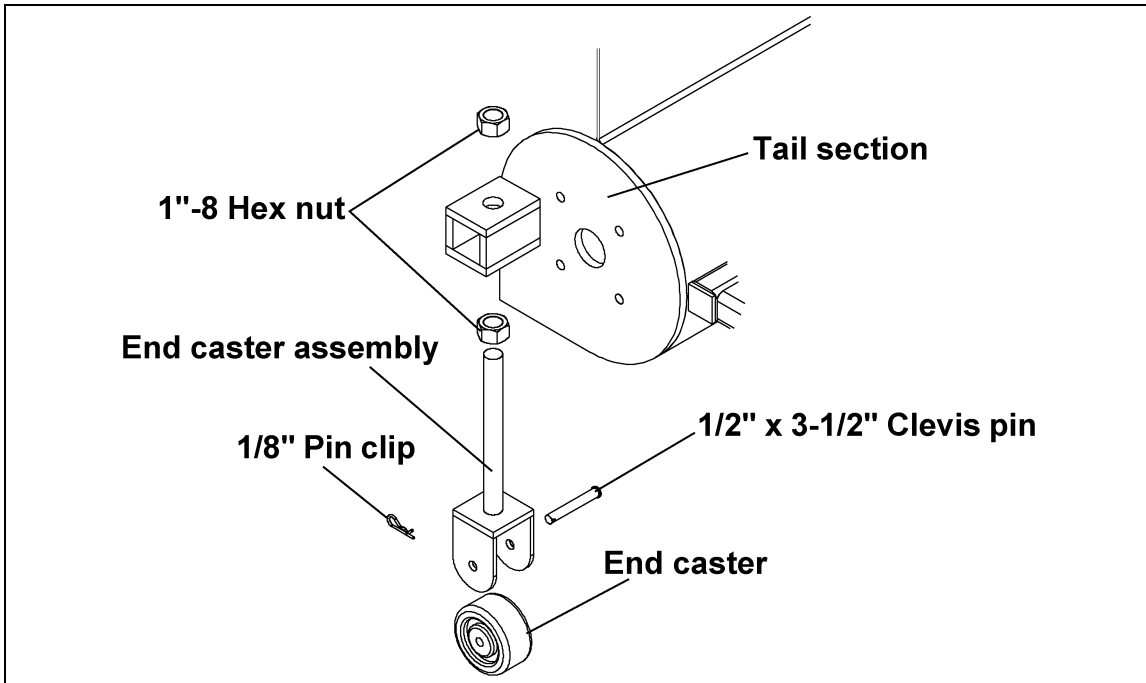

Figure 5A
- B. **(All 16" Models and 12" Models with extensions)** Assemble the end caster to the end caster assembly using the 1/2" x 3-1/2" clevis pin and 1/8" pin clip as shown in See Figure 5A.
- C. Attach the end caster assembly to the end of the tail section using two (2) 1"-8 hex nuts.